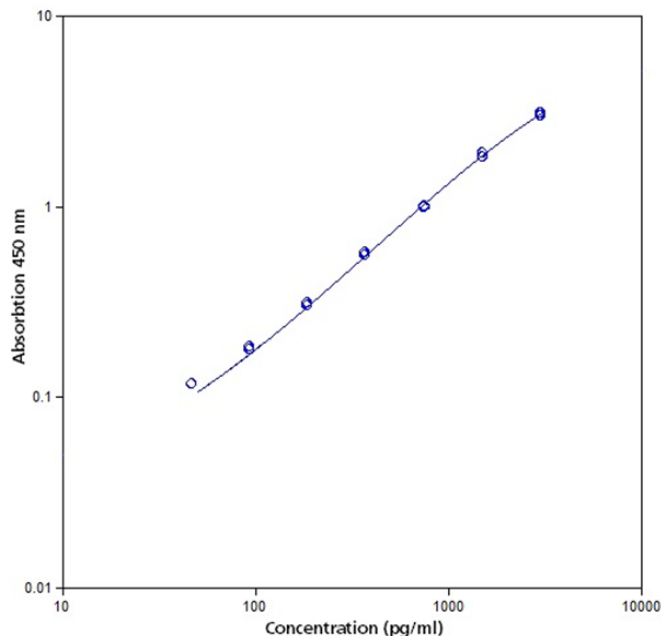

Fig. 7 Representative standard curve for human Cystatin C ELISA. Human Cystatin C was diluted in serial 2-fold steps in Assay Buffer (1X).
- A representative standard curve is shown in Figure 7.